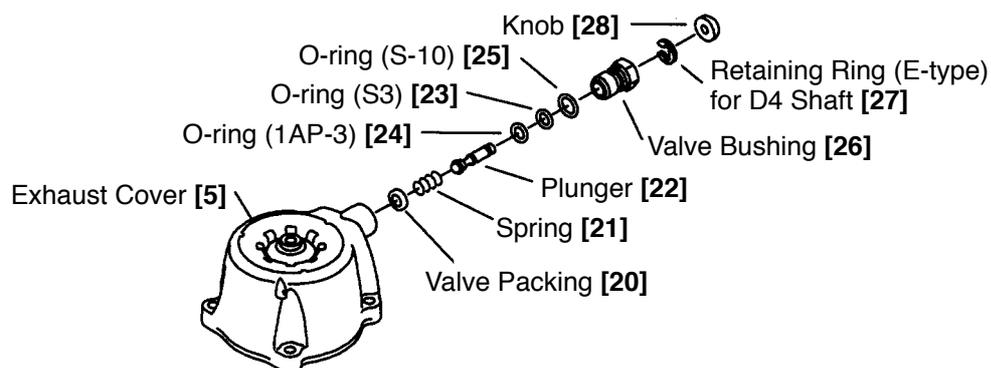

Fig. 13 Disassembly and reassembly of the valve bushing, plunger, etc.
(2) Disassembly and reassembly of the Valve Bushing [26], Plunger [22], etc. (See Fig. 13.)